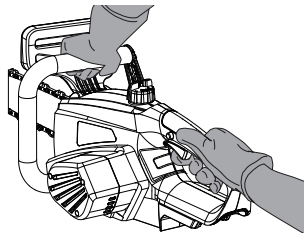

Fig. 18
1. Make sure the chain brake is disengaged. Disengage the chain brake by pulling the front safeguard (chain brake lever) (4) back towards the front handle (3).
2. Place the product on any suitable flat surface, make sure the saw chain (11) is not touching the surface or other objects.
3. Attach the battery pack (23).
4. Hold the product with left hand on the front handle (3) and right hand on the rear handle (1) (Fig. 18).